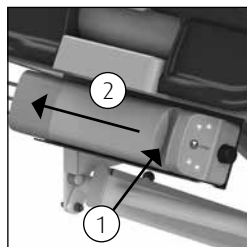

Figure 14 Battery.
(See figure 14).
- In order to remove the battery, use one hand to unlock the catch (1) on the battery, then slide the battery to the right (2) *(see figure 14).*